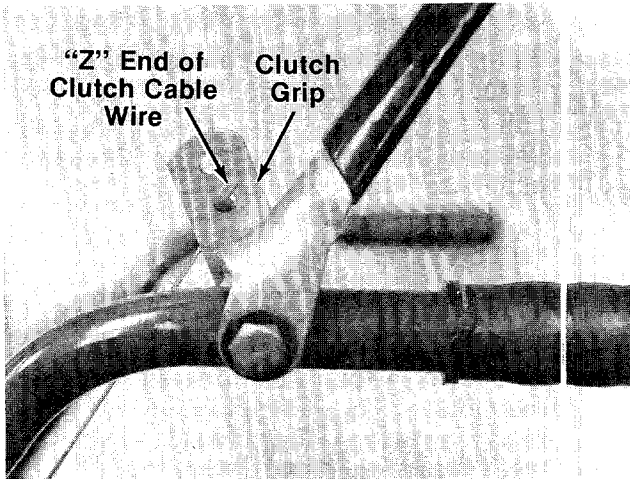

FIGURE 7.
8. Hook the "Z" end of clutch cable wire into bottom hole of clutch grip. See figure 7. ←